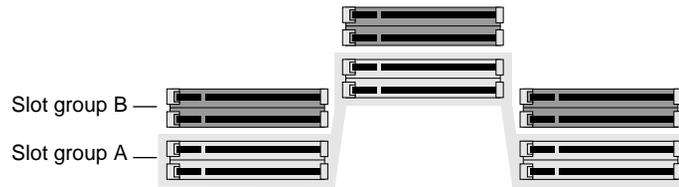

Figure 3-2 Identifying the DIMM Slot Groups
5. Identify the DIMM slot groups, as shown in Figure 3-2. The slot groups—A and B—are split across three vertical rows, with two slots in each row.